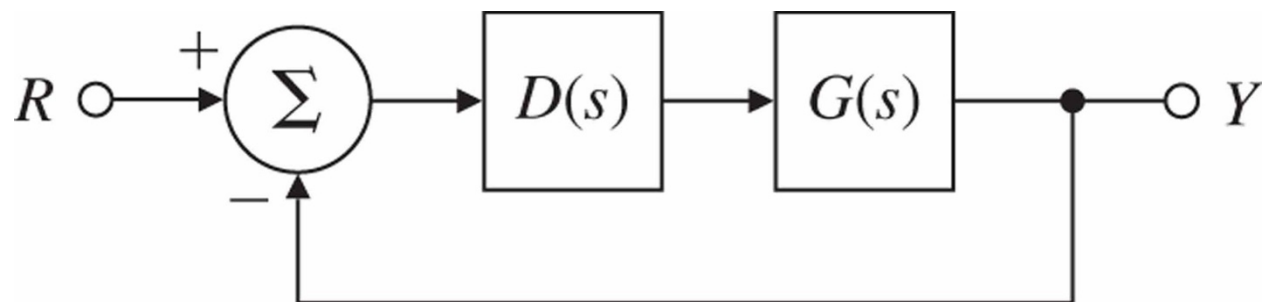

Fig. 5.60
Performance specifications of the system in the unity feedback configuration of Fig. 5.60 are satisfied if the closed-loop poles are located at $s = -1 \pm j\sqrt{3}$.
28. Assume the closed-loop system of Fig. 5.60 has a feed forward transfer function $G(s)$ given by